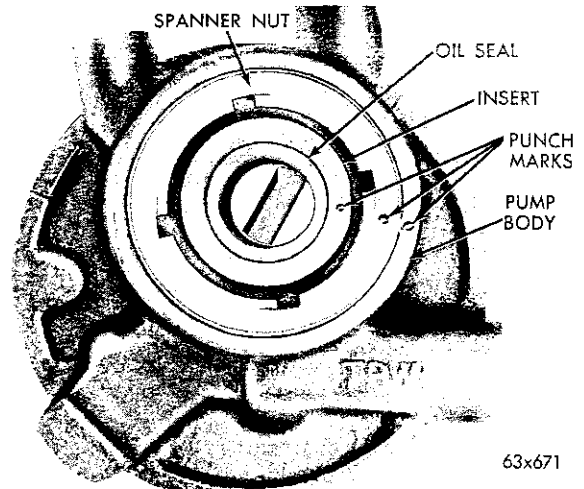

Fig. 59—Center Punch Marks on Pump Body, Spanner Nut and Front Insert
- (3) Use a center punch to mark the position of the spanner nut and front insert in the pump housing (Fig. 59), to insure that the front insert and spanner nut are returned to the exact same position at reassembly.